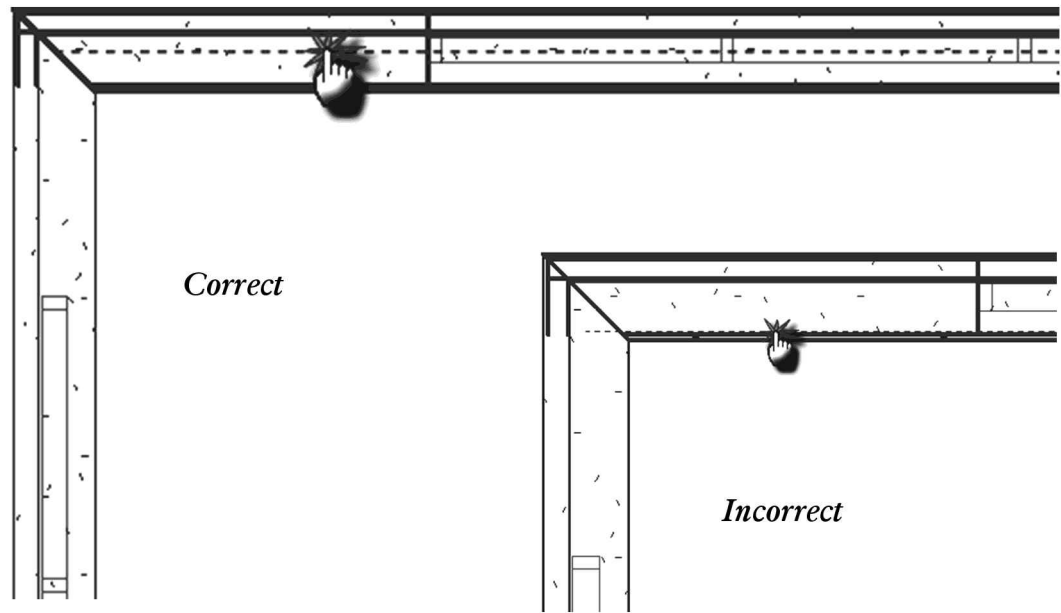

FIGURE 6-2.3 Roof Plan; four walls selected for sketching roof footprint
11. Select each of the exterior walls, favoring the exterior side when clicking the wall. Just before clicking, the dashed reference line should be at the exterior face of the wall core per the example shown in Figure 6-2.3.